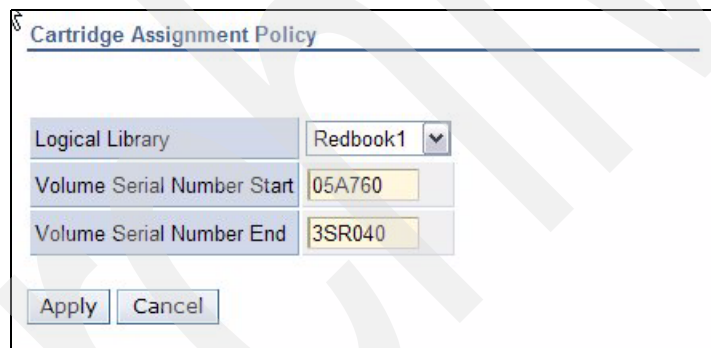

Figure 2-55 Cartridge Assignment Policy assignments
- Choose the logical library to which you want to assign the cartridge policy. Enter the starting and ending VolSer for the range to be defined (see Figure 2-55), and click **Apply**.